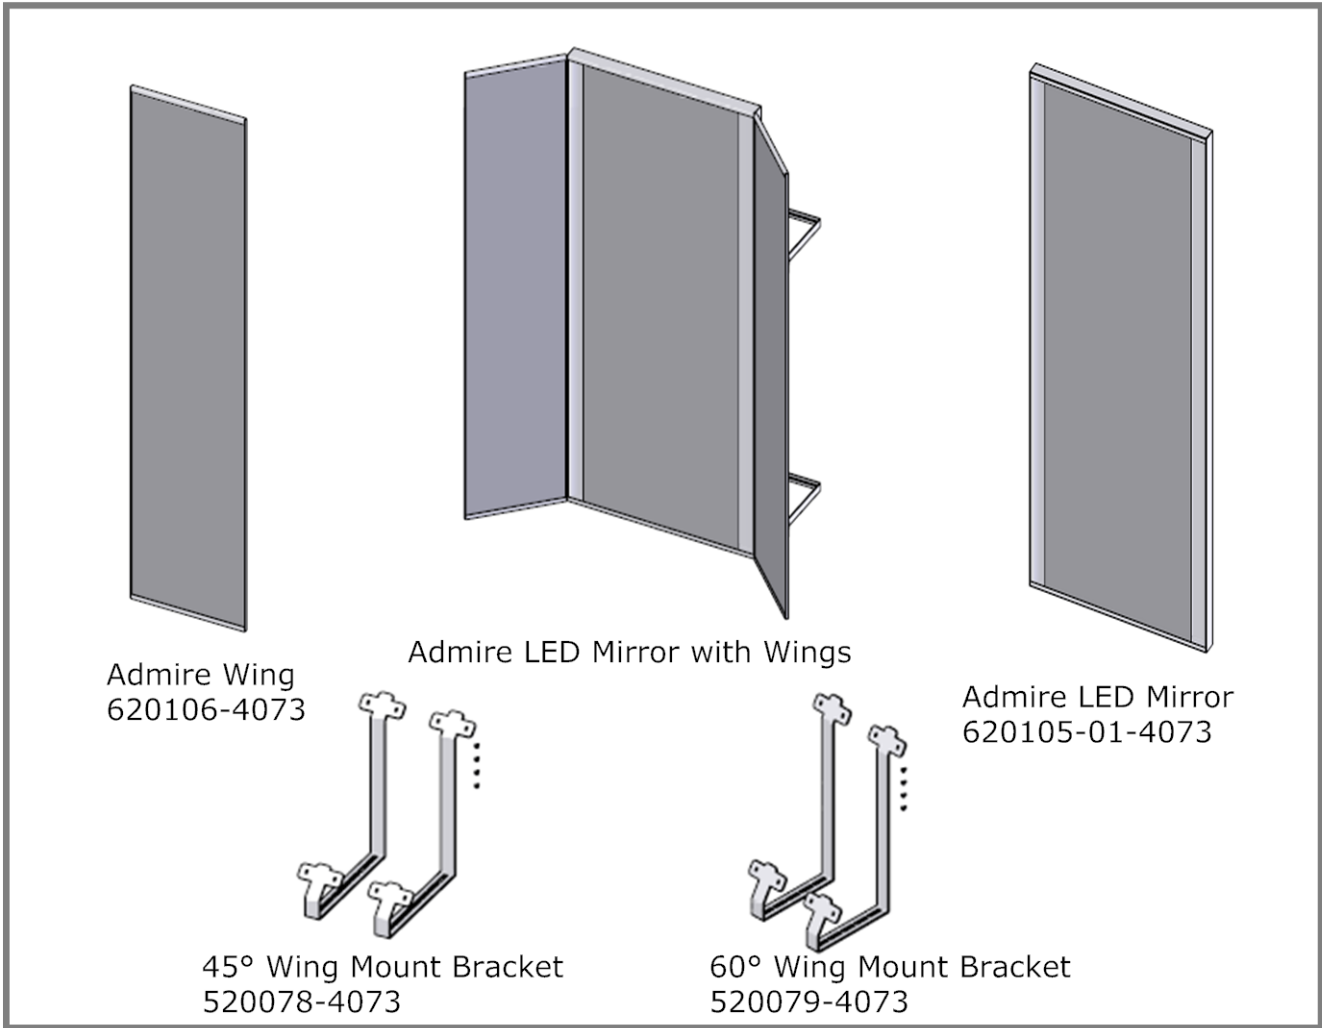

Figure 1
2. Fasten the upper and lower cleats to the wall or suitable structural location with the top edge of the part on the lines from step 1. **See Figure 1** Use fastening screws with a minimum pullout rating of 75lbs per fastener (obtain locally).